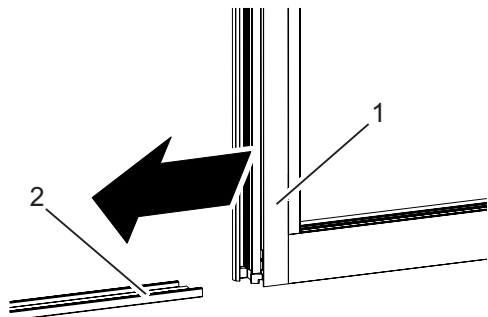

Fig. 11: Fixed panel
- Move the fixed panel (Fig. 11/1) into the intended position and slide it with the lower edge onto the bottom rail (Fig. 11/2).